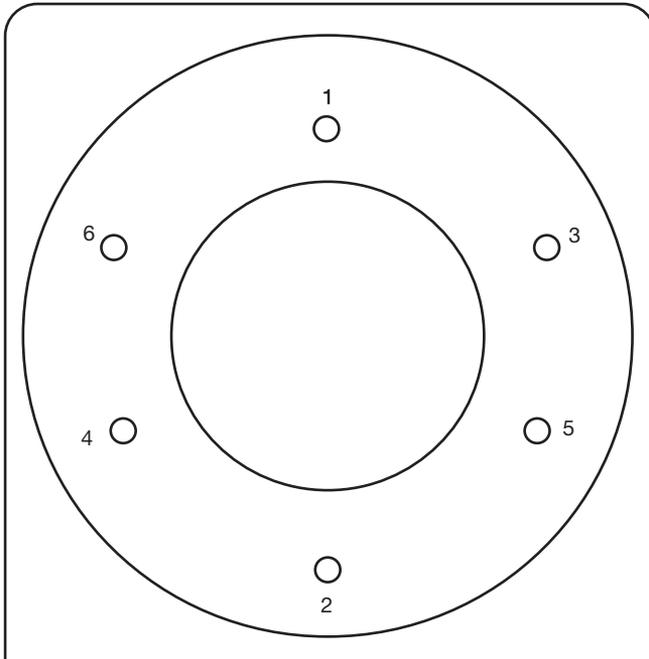

Figure 19: Pilot Flange Nuts Tightening Sequence
4. Install the Sensing Tube (17) in the main bonnet.
5. Install second Gasket (52) in the groove in the sensing tube flange.
6. Install the pilot Base (20) into the main valve bonnet. The outlet of the pilot should face the outlet of the main valve.
7. Install the pilot flange Stud Nuts (45) and torque down evenly. See Figure 19 and Table 7 for torquing values.
8. Install the fittings on the discharge tube. Also install O-Rings (12) onto the discharge tube.